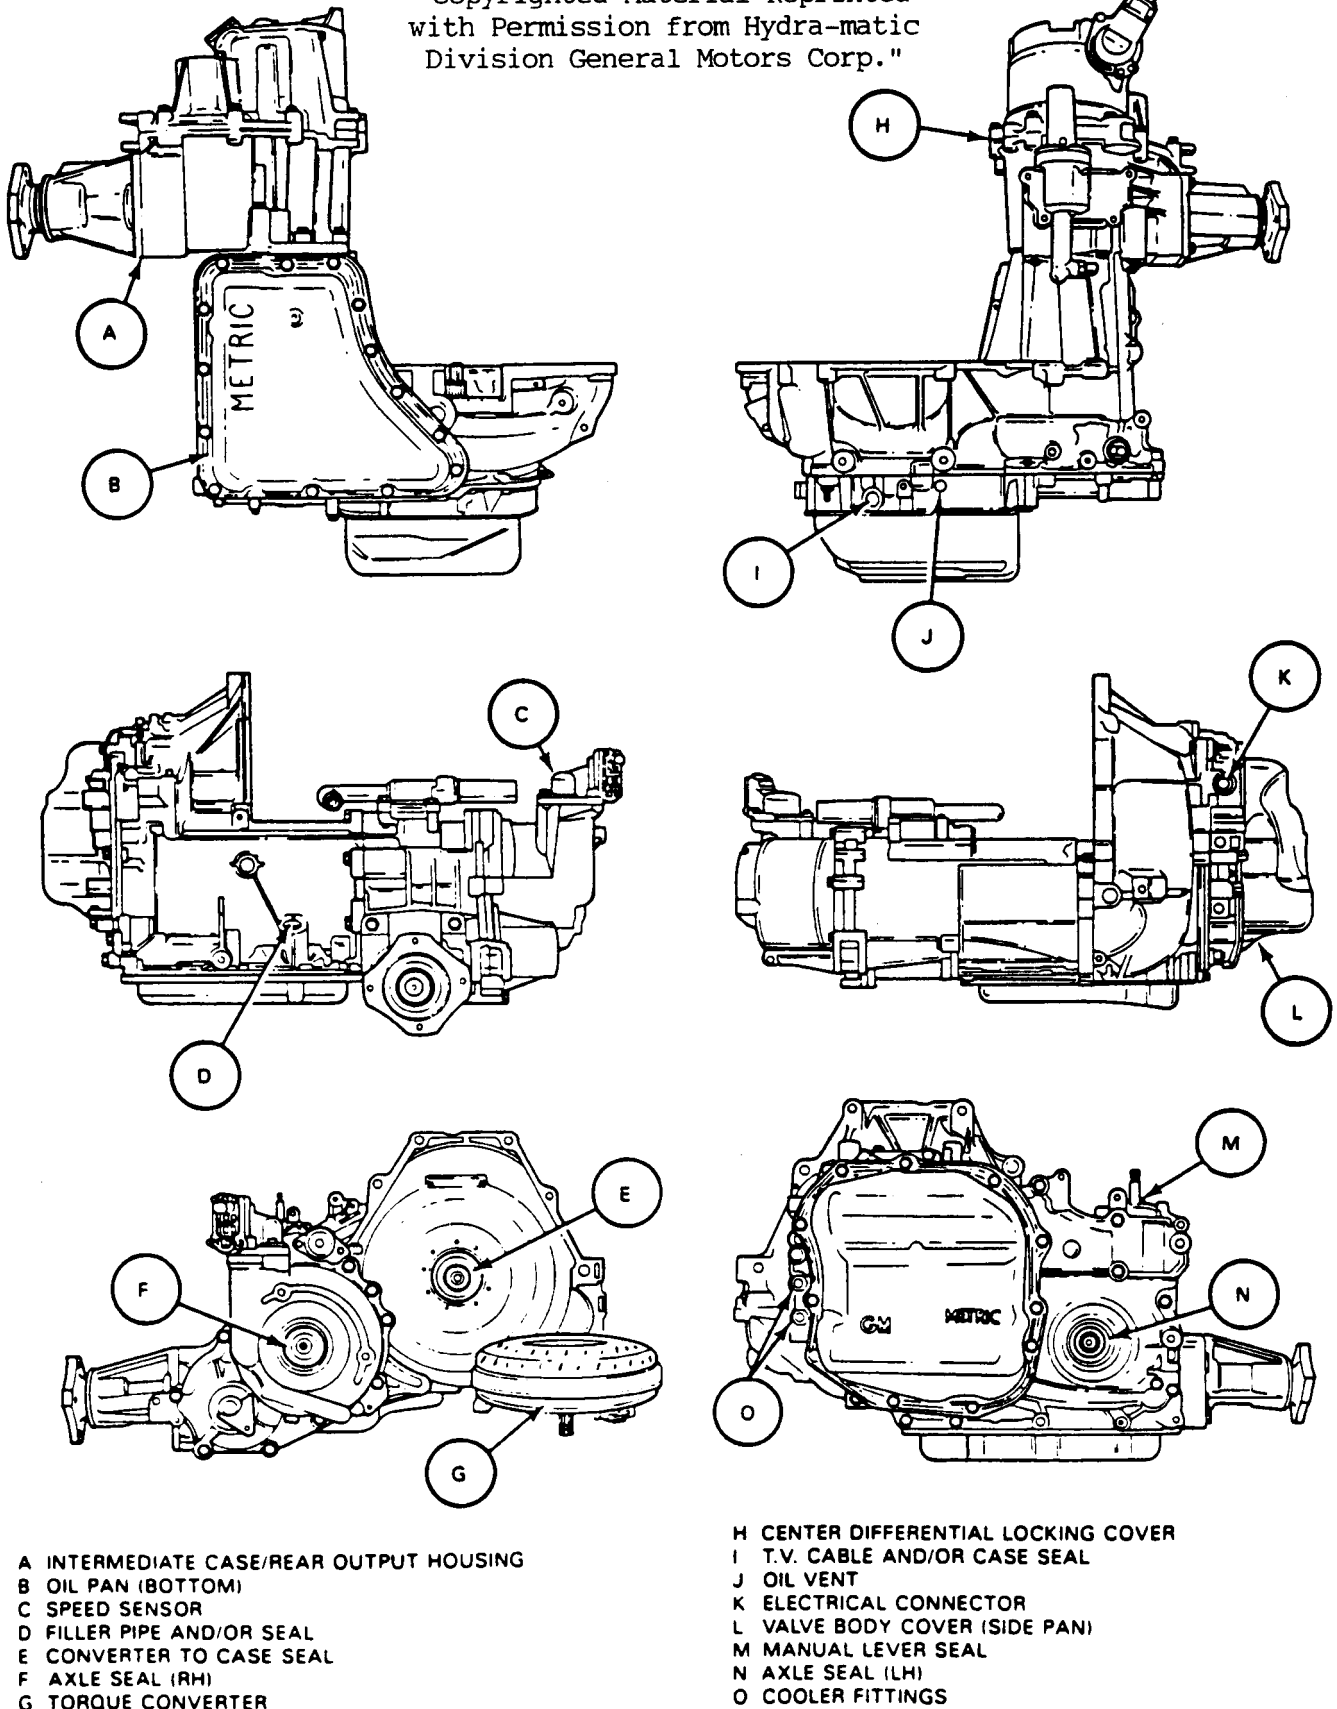

Figure 7
- \* Chart for potential leak areas. See Figure 7.